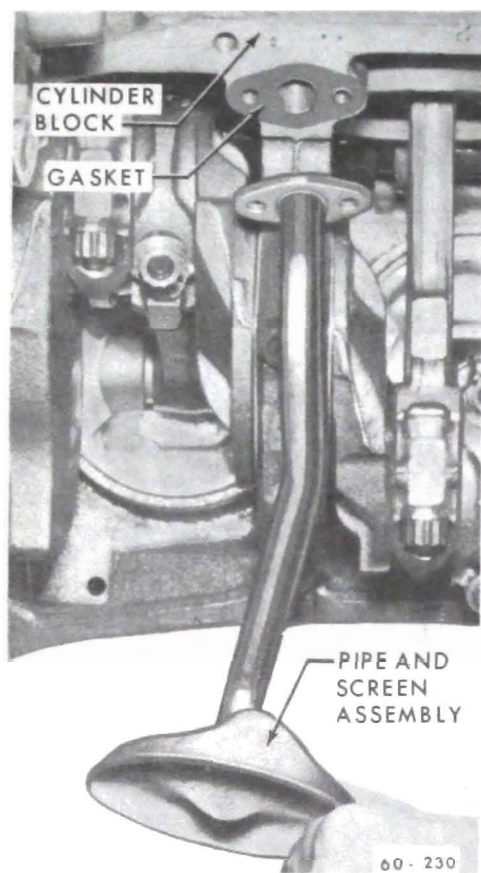

Figure 60-224B Oil Pickup Pipe and Screen
2. Use new gasket and tighten bolts to 8 lb. ft. torque. See Figure 60-224B.